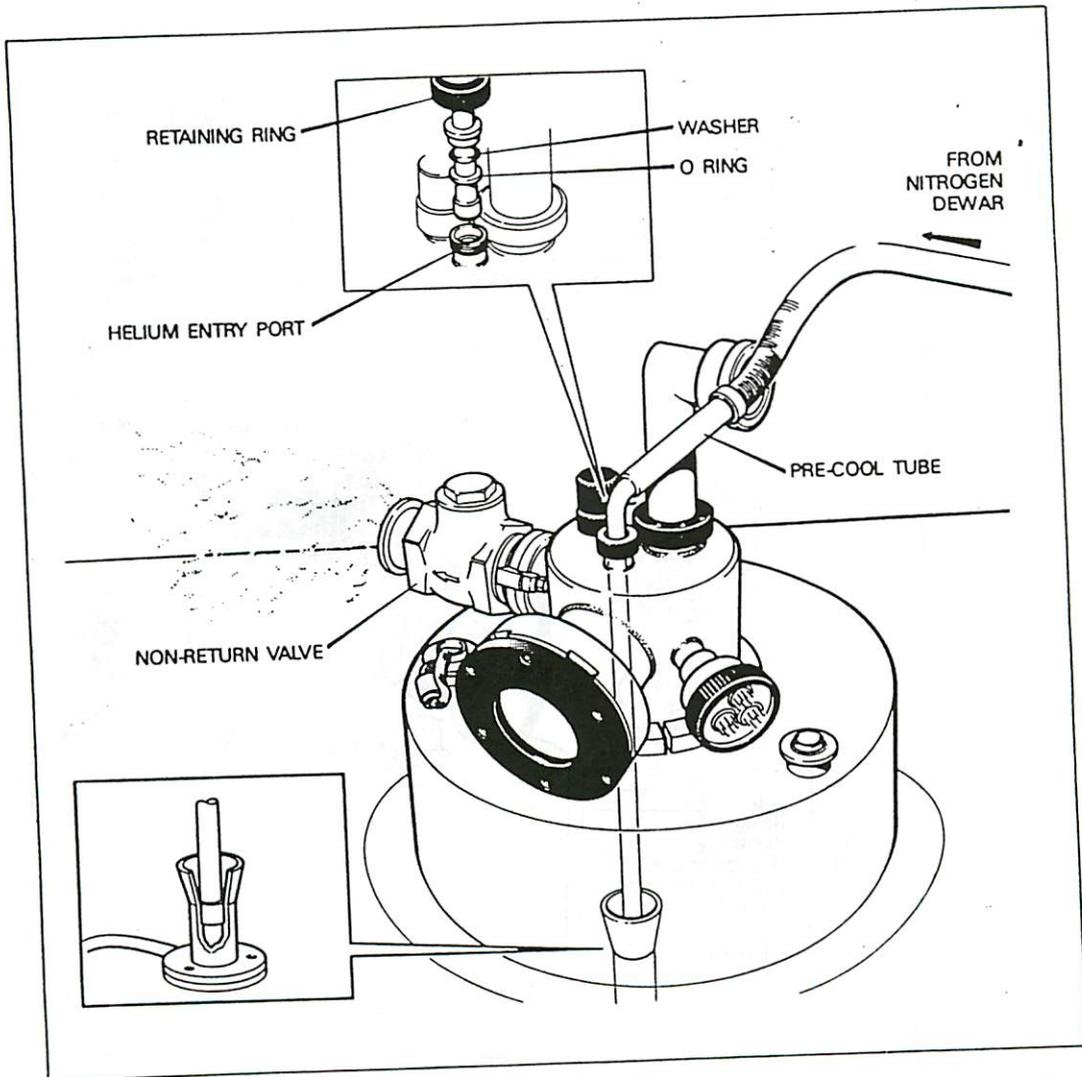

Figure 4.3
- 4 Remove the baffle assembly from the helium entry port and transfer the retaining ring, washer and 'O' ring to the nitrogen pre-cool tube. Check that the seal is not damaged. Fit the extension leg and PTFE seal to the tube and enter the nitrogen pre-cool tube in the helium entry port on the services turret (Fig. 4.3).